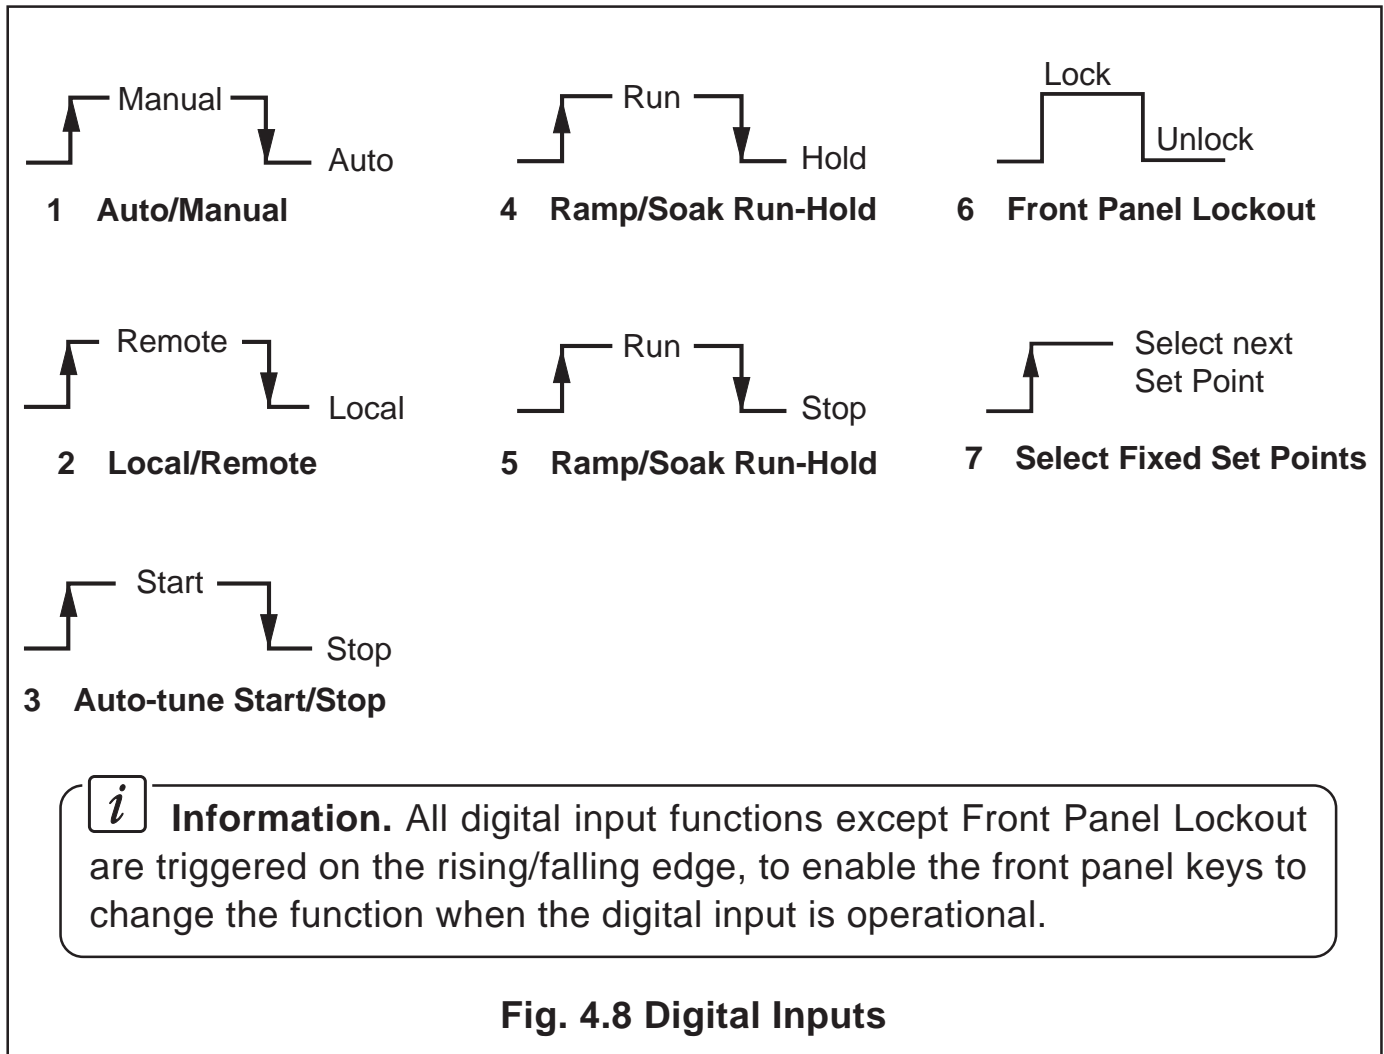

Fig. 4.8 Digital Inputs
4.3.4 Digital Input and Serial Communications – Fig. 4.8
The parameter to be changed is indicated by the letter which is flashing. Parameter options are shown in Fig. 4.8.